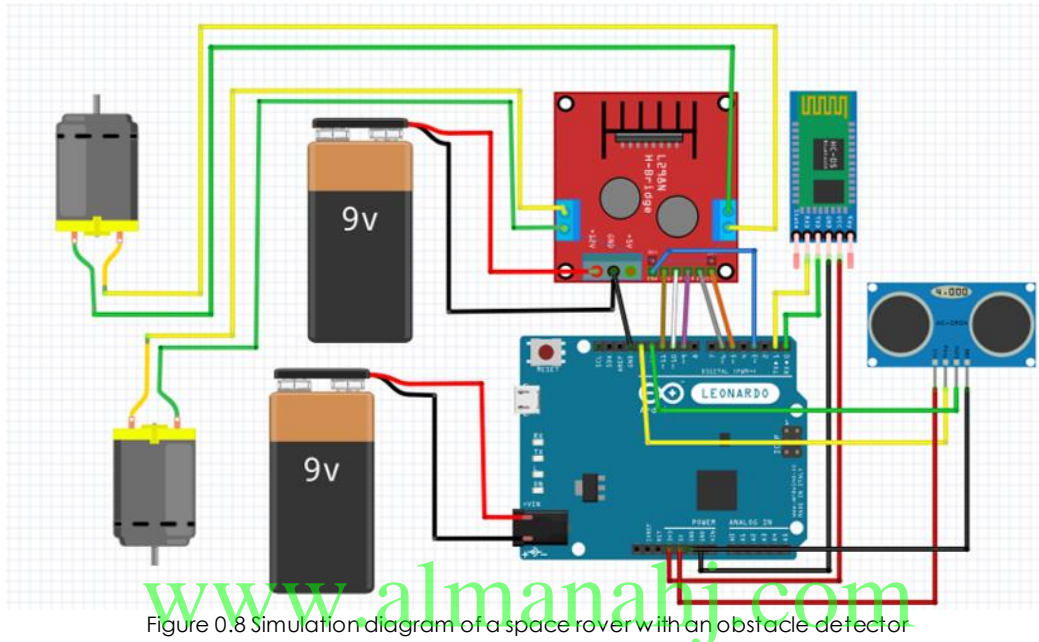

Figure 0.8 Simulation diagram of a space rover with an obstacle detector
- Use the concept of an ultrasonic sensor to write an Arduino code and build a circuit to add an obstacle detector to your space rover. The space rover should stop when it detects an obstacle 20cm away. Figure 0.8 can be used as a guide to help you with connecting the ultrasonic sensor.